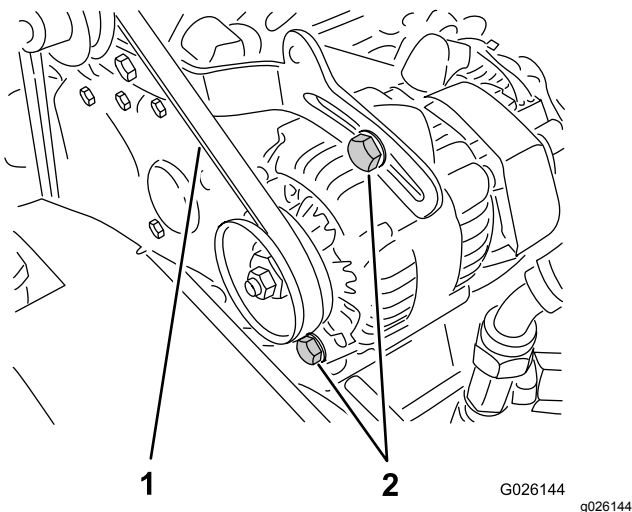

Figure 58
2. Check the tension by pressing the belt at mid span between the crankshaft and alternator pulleys with 10 kg (22 lb) of force (Figure 58).
- A. Loosen the 2 alternator-mounting bolts (Figure 58).
- B. Using a pry bar, rotate the alternator until the proper belt tension is attained, then tighten the mounting bolts (Figure 58).